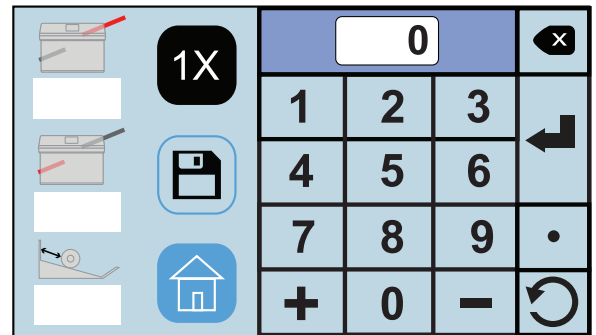

Fig. 23
1. Select the top fold plate icon  (Fig. 23) to set the fold stop position for the first fold (the icon will flash dark gray when selected). Using the touch pad key, in the measurement for the first fold stop position, (**Note:** the minimum position is 1.62" and the max. position is 12.59".).